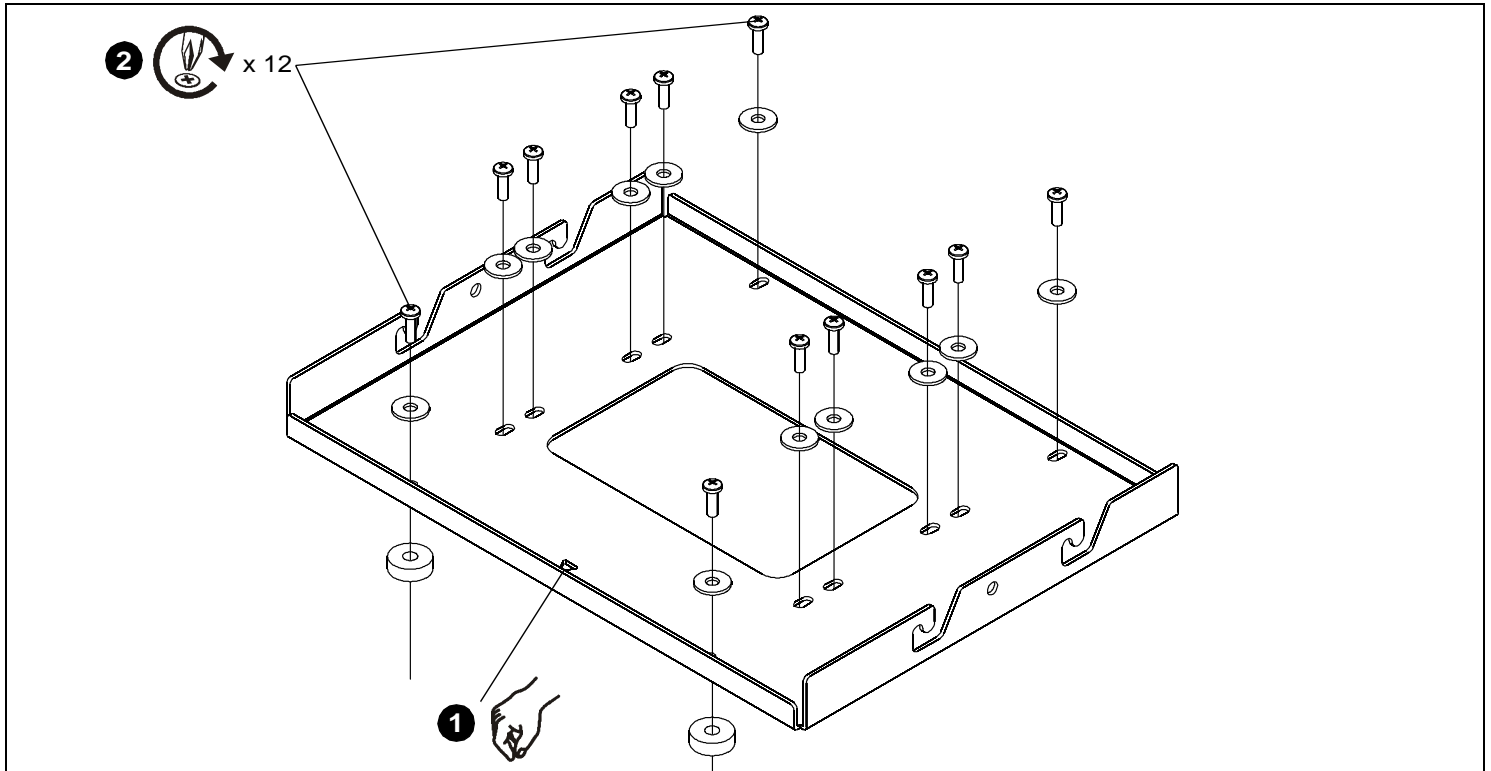

Figure 1:
1. Lower custom HB bracket onto top of projector. Ensure that triangle in bracket points toward front of projector. (See Figure 1)
2. Attach HB bracket to projector using twelve M6 x 20mm button head screws, twelve M6 flat washers, and twelve nylon spacers through twelve holes of the HB bracket. (See Figure 1)